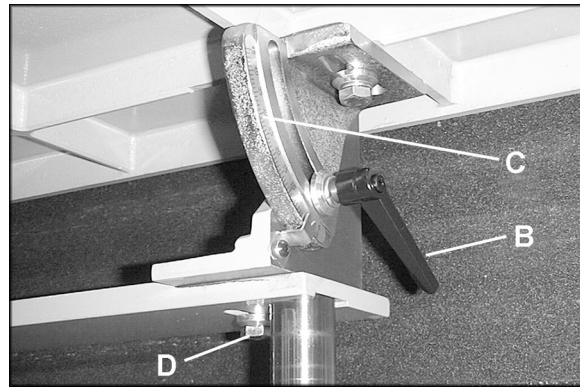

Figure 11
1. Loosen the locking handle (B, Figure 11) on both sides beneath the table.
2. With the workpiece on the table, swivel the table into the desired position with the workpiece, or use the indicator scale (C, Figure 11).
3. Tighten locking handles (B, Figure 11).
The amount of clearance between the main table and the sanding belt can be adjusted. Loosen the screws (D, Figure 11) and slide the table forward or backward. Re-tighten screws (D, Figure 11).